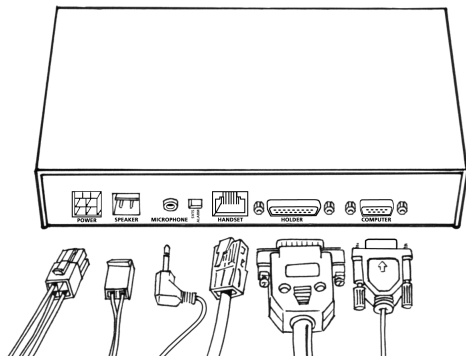

FIGURE 6 Control Box Connection Diagram
- After you connect one end of each lead to the Control Box, refer to Figure 6 and proceed with the following connections: